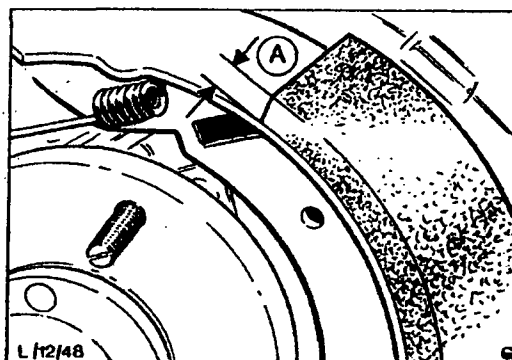

Fig. 16. Rear brake lining wear.
2. Visually inspect condition of linings using a lamp. There should always be at least 1,5 mm (0,060 in.) thickness of lining material, Fig. 16.
3. Check condition of linings. There should always be at least 1,5 mm (0 060 in.) depth of lining material on the linings, 'A' Fig. 16.